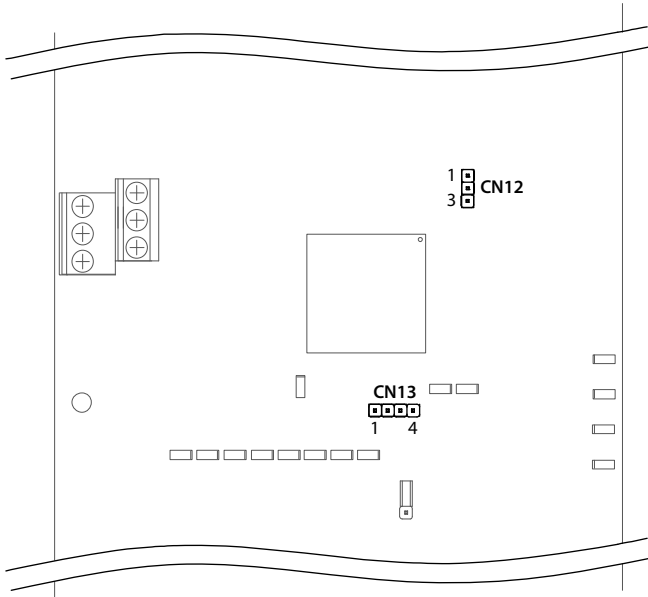

Figure 7-5 HDD5L-PLUS control board is connected to the OTA terminal
4.	Use jumper caps to short-circuit pins 2 and 3 of CN12. See Figure 7-5 for CN12.
5.	The download port of HP-OTA-A is connected to CN13 of the control board. Pin 1 of the download port corresponds to pin 1 of CN13. See Figure 7-5 for CN13.